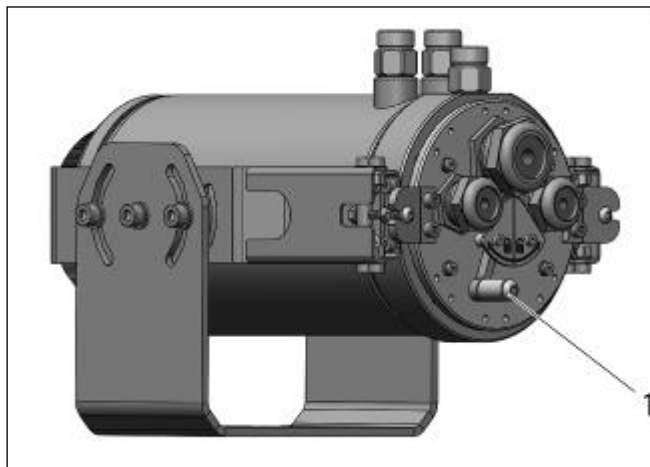

Figure 31: Back side of the CoolingJacket with locking lever
6. Move the locking lever to the left (symbol: ) , so that the chassis is fitted close to the inner surface of the housing (**Figure 31**).
4. Move the locking lever to the left (symbol: ) , so that the chassis is fitted close to the inner surface of the housing (**Figure 31**)